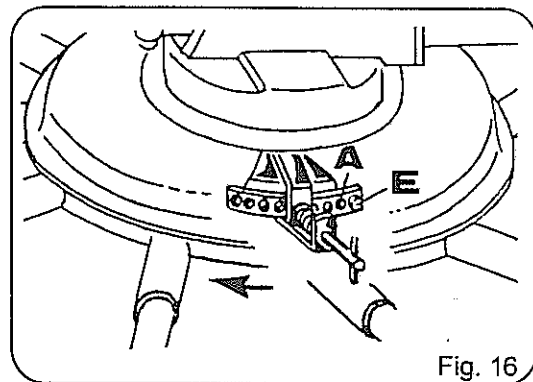

Fig. 16
The swath width can be adapted to suit the fodder concerned by turning the cam track (adjusting plate under rotor, fig. 16).
- Remove supports and secure (see Page 14, fig. 16).